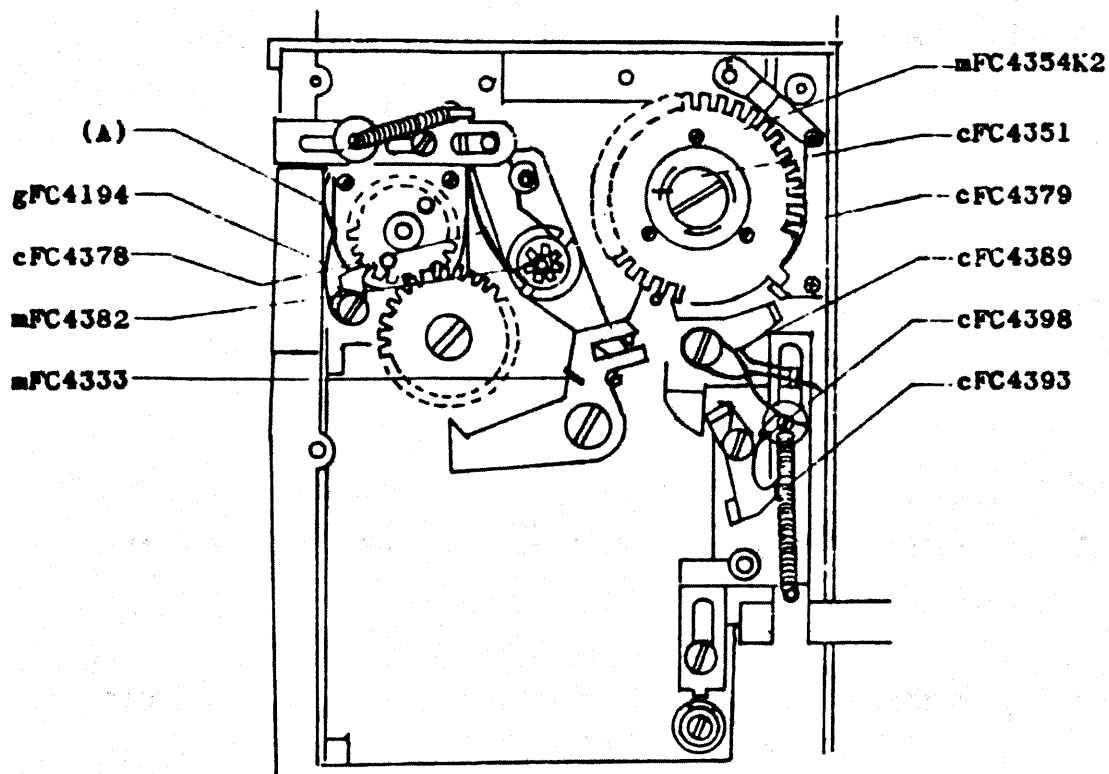

Fig. 6
Refer to Fig. 6 for hanging each spring.
(1).11 The dividing disk assembly mFC4354K2 can be taken off when the exposure counter shaft cFC4351 is loosened. Do not loosen cFC4379. (See Fig. 6)
(2) Assembly